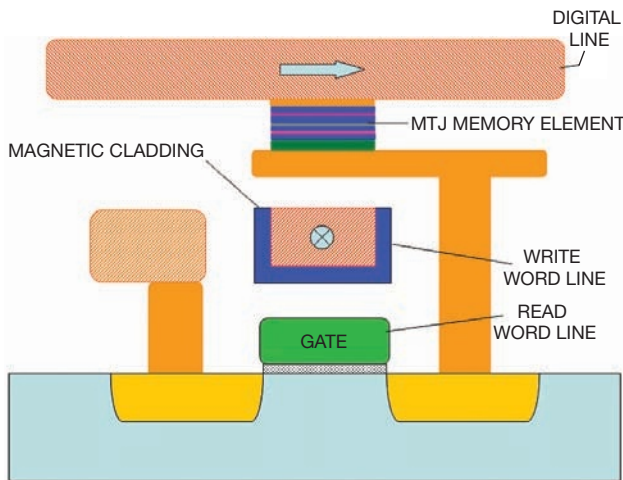

Figure 18 An MRAM cell can be created using a fixed magnet.
- **Form memory cells** from two ferromagnetic plates, each of which can hold a magnetic field, separated by a thin insulating layer (Figure 18).